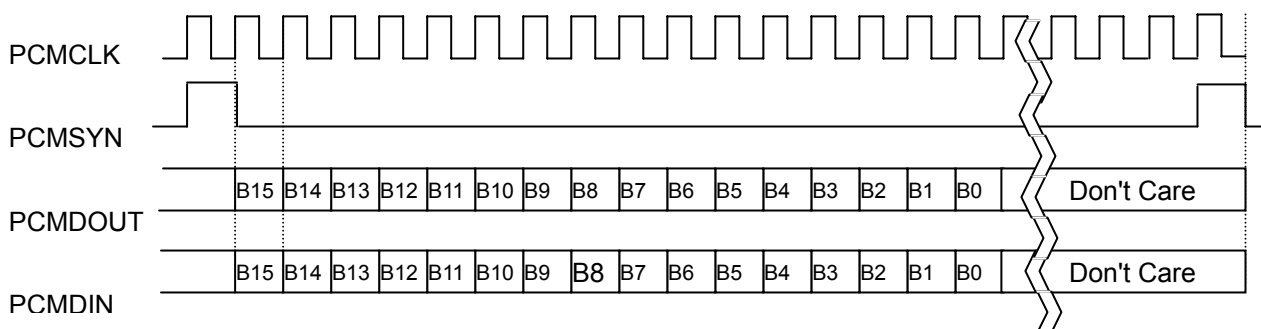

Figure 27-2 Short Frame SYN Timing (Shown with 16bit Sample)
- 1 Figure 27-2 shows a PCM transfer with the MSB configured one shift clock after the PCMSYN.